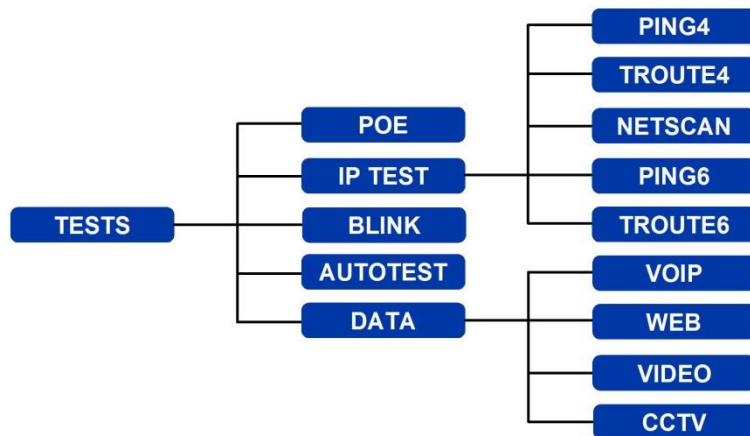

Fig 17 Test menu map - Ethernet testing (3)
(3) When a SignalTEK NT Remote Unit is detected through an active network the information bar will read 'Ethernet'. When the TESTS icon is selected, the Ethernet tests shown at Fig 17 are available.